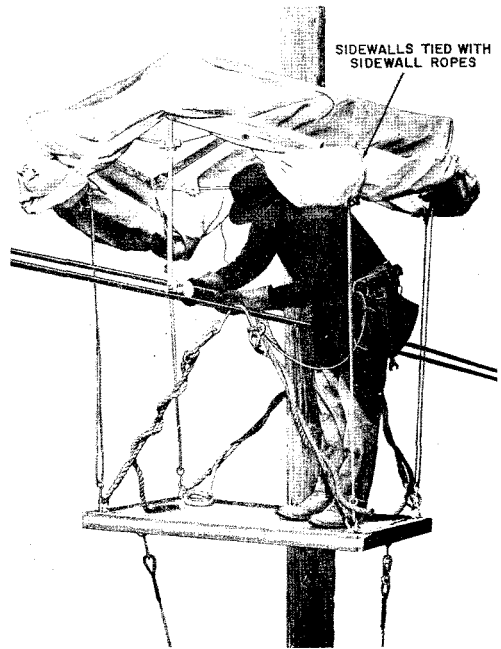

Fig. 3 — Tent Sidewalls Rolled and Tied
2.04 Two ropes in each sidewall provide a means of securing the sidewalls when they have been rolled up. Fig. 3 illustrates the tent with the sidewalls rolled up and tied with the sidewall ropes.